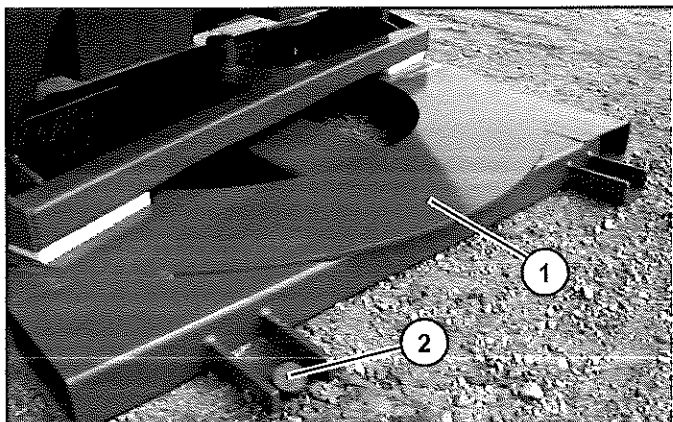

Figure 31
19. Once you've prepared the conveyor for operation and determined that the tail of the conveyor is in the right spot, secure the pivot plate (Item 1). It is important the tail end of conveyor is secured before starting any automated operation. Pound the stakes (Item 2) supplied with the conveyor into the ground at the 4 holes on the corner of the pivot plate. If necessary, use additional stakes to keep the tail from moving (**Figure 31**).